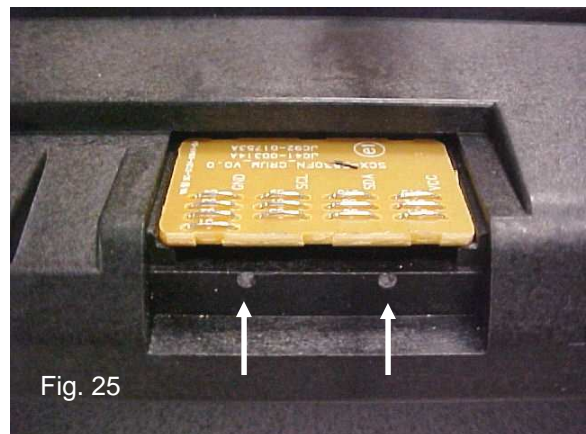

Fig. 25
25. Stick double sided tape on broken weld area and reattach the cover (Fig. 25).